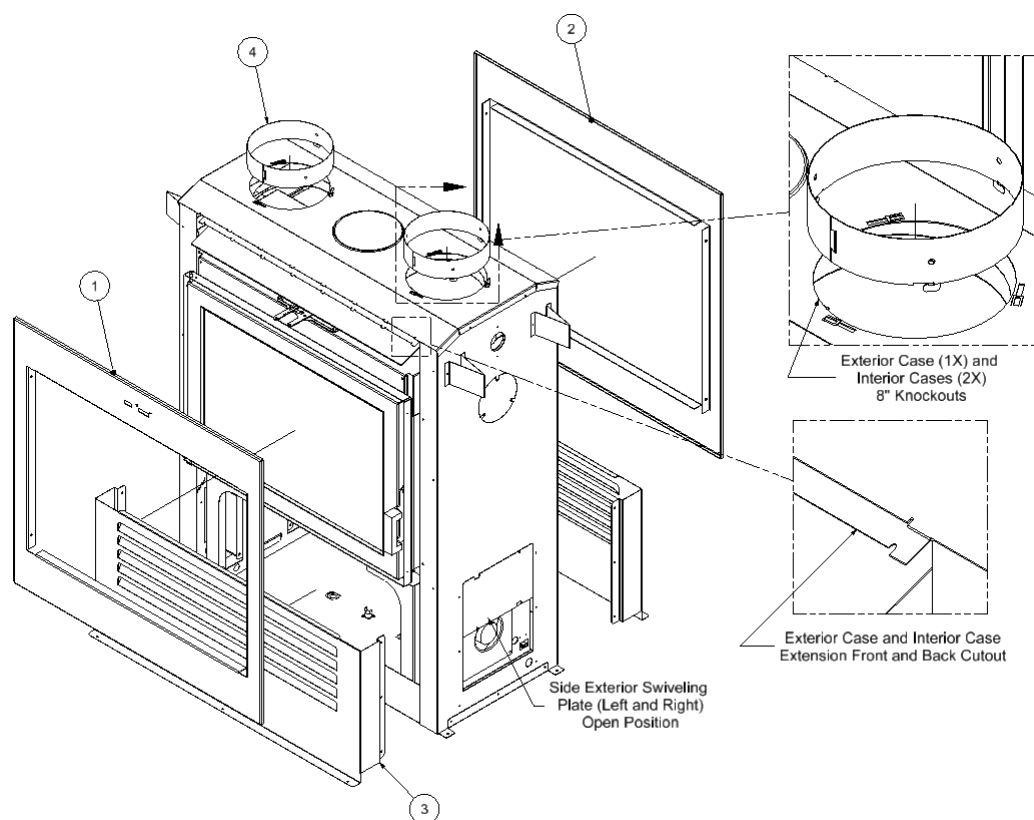

Figure 3-8: Contemporary Surround
The Contemporary surround comprises no louvers; however, an intake into the chase and an outtake through gravity ducts is required for this configuration. The instructions below describe the installation of the Contemporary surround. Refer to Figure 3-8 and Table 3-4 for the instructions below. Refer to Section 3.5 for Gravity Kit installation instructions.
3. Place the Front Contemporary surround (Item 1 in Figure 3-8) within the door holder and secure it in place with 4 black screws (one on each corner). Make sure that the handles of the Combustion Air Control pass through the slots of the surround.
4. Repeat Step 3 with the Contemporary Back surround (Item 2 in Figure 3-8).
6. Secure the Intake Swivel Covers on the bottom sides of the unit to the **open** position (Figure 3-8).
7. Remove the 8 inch knockouts at the top exterior case (2X), the top interior case (2X) and the top interior shield (2X) of the unit using a flat head screwdriver (Figure 3-8).
8. Install the 8 inch duct adapters (Item 4 in Figure 3-8) on the newly cut knockouts of the exterior case by aligning/inserting the tabs to the slots and turning counter clockwise to lock in place (Figure 3-8).
- The intake swivel covers at the bottom sides must remain open for all Contemporary Surround installations (refer to Figure 3-8).